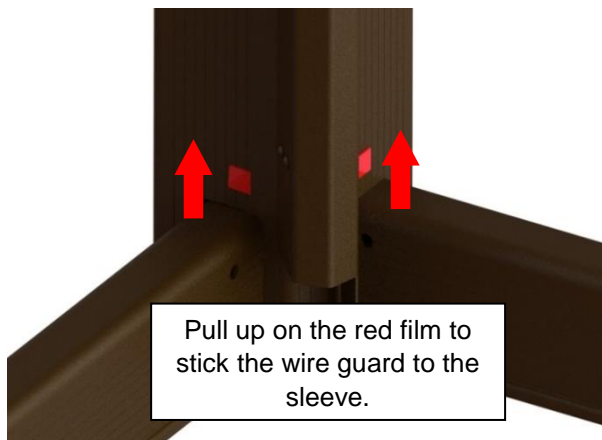

Figure 69
- 13) Fit the wire guard on the corner of the post. **Ensure no wires are pinched and that the wire guard is well levelled before adhering it to the sleeve.** (Figure 69)
- 14) While still holding the wire guard on the post, gently start peeling away the red film one side at a time. This method will ensure proper alignment. Hold for **at least one minute** to ensure a proper bond. (Figure 69)